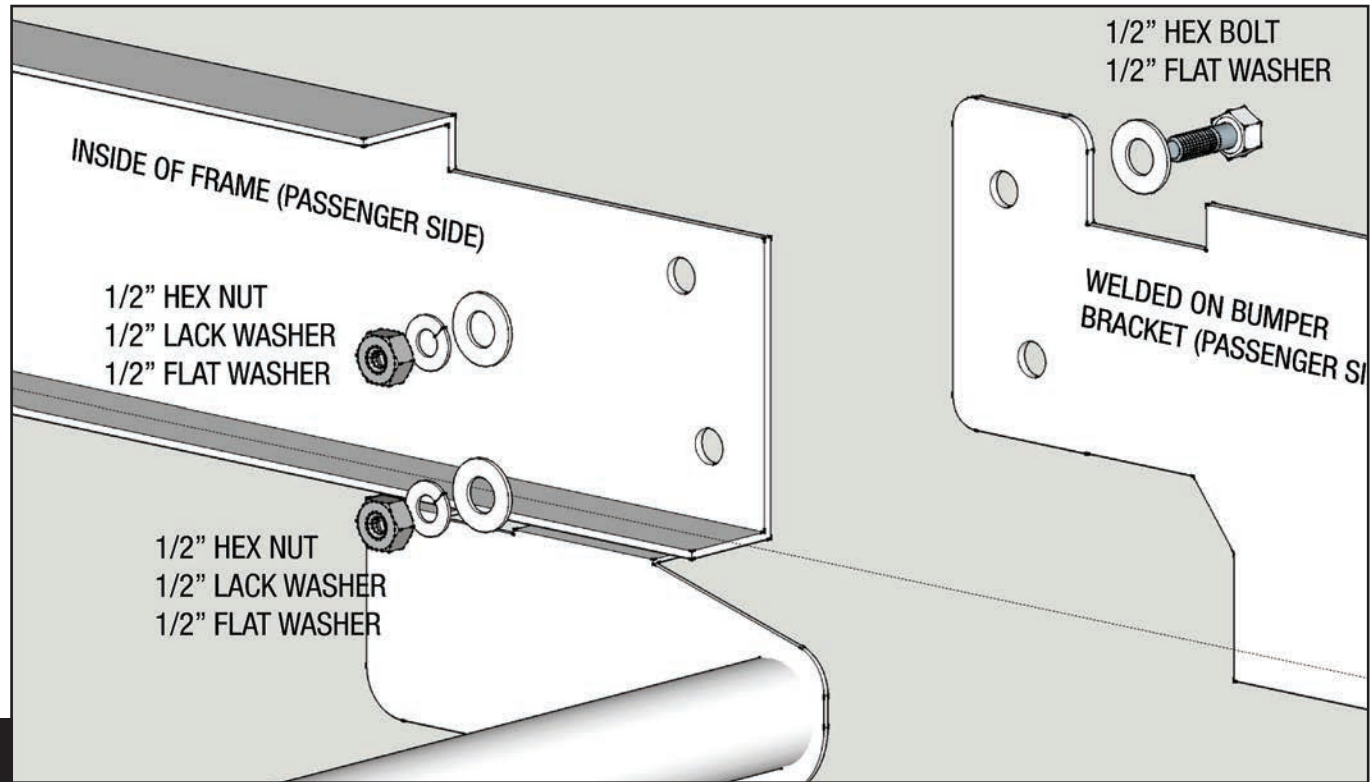

Fig 2
2. A) Bolt bumper to frame using supplied hardware: bolts, washers, and nuts. Repeat for other side. Align spare tire access cover with guide tube (**Fig 2**).